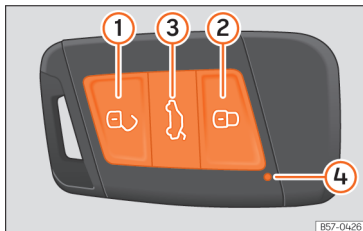

Fig. 46 Vehicle key
When a button is pressed briefly on the vehicle key, the control lamp ④ >>> Fig. 46 flashes once briefly, but if pressed for a long period of time, it will flash several times, for example, in the convenience opening.